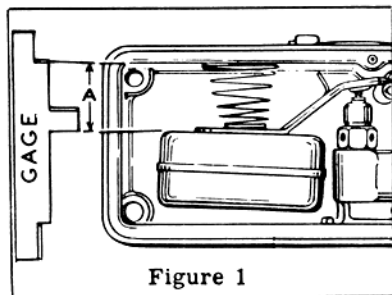

Figure 1
- When installing the pump diaphragm (33), make sure that it is not wrinkled, as difficulty may be experienced when the fuel pump cover assembly (32) is installed. Wrinkling can be avoided by starting the four screws (31), then holding the spring (34) compressed with the lever on the fuel pump cover assembly (32), while tightening the four screws (31).
- After initial tightening of the four screws (22), retighten them several times in order to insure a seal on the gaskets (23).
- When installing idle adjusting needles (16), run them down until they seat lightly, then back them out one turn for a trial setting.
- When installing the power valve (42), it is advisable to tighten it, then back it up and retighten about three times in order to thoroughly settle the gasket (43).
- After installing the float (28), make certain the spring which is attached to the float is not bound inside the fuel bowl (38). Position the fuel bowl upside down and gage the float as outlined in figure 1.
- Make certain that the seal (15) is located between the two choke rod seal washers (14), and that the choke operating rod passes through the holes in these washers and seal.
- When installing the pump discharge nozzle (11), tighten the screw (9), then back it up and retighten two or three times to seal the gasket (10).
- When installing the air vent valve (21) on the operating lever, which is attached to the fuel bowl assembly (38), make
- Float Adjustment — Type 1.** (See figure 1.) With the float hanging of its own weight (fuel bowl upside down) measure distance at "A" with gage supplied. This distance is given on the Adjustment Data Sheet. Bend lip on float lever to adjust.